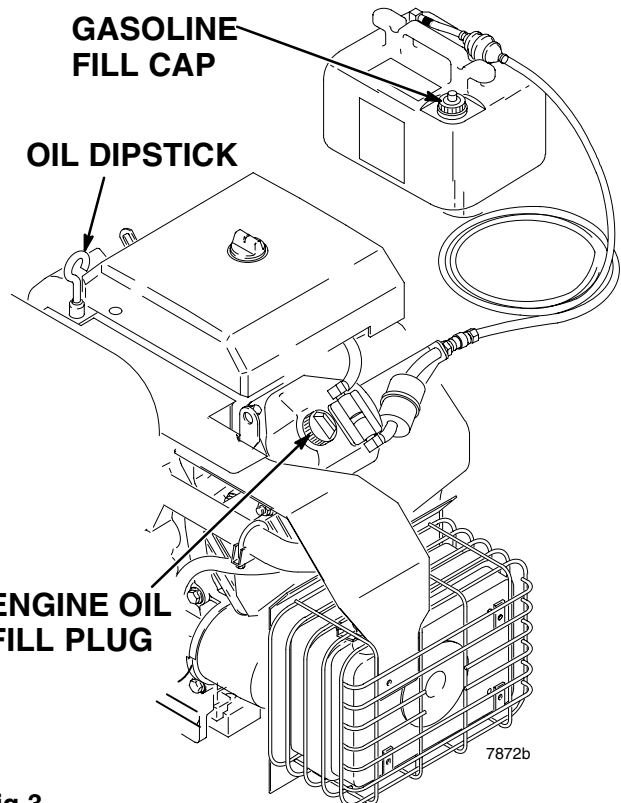

Fig 3
- Remove the dipstick. See Fig 3.
- Close the fuel shutoff valve. See Fig 3.
- Remove the gasoline fill cap and fill the tank. Be sure the air vent in the fill cap is not plugged so gasoline can flow to the carburetor, then replace the cap. See Fig 3.